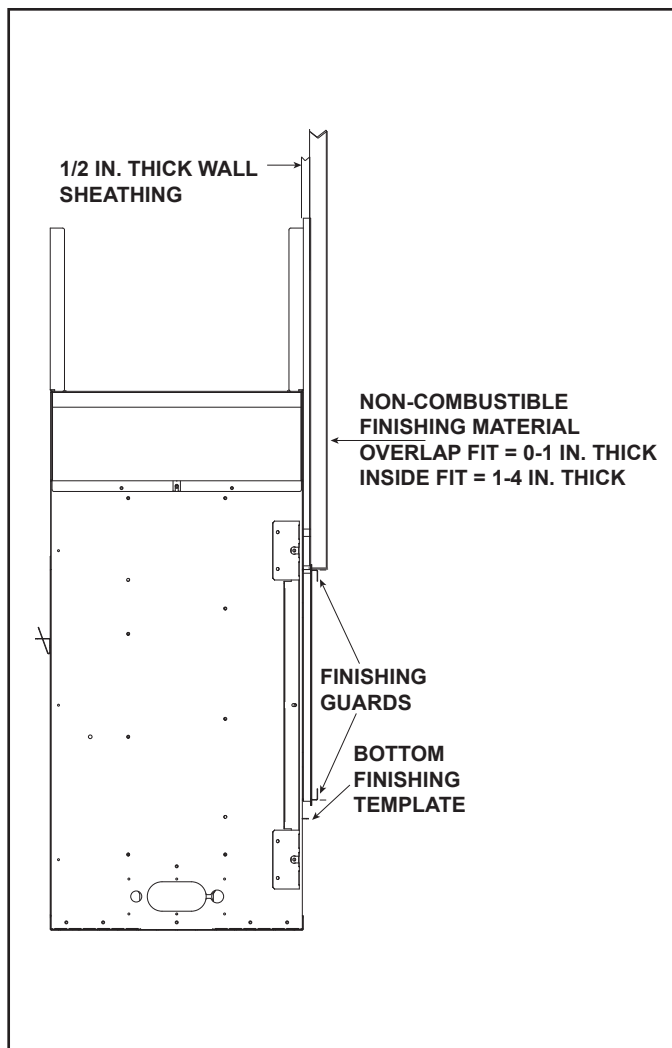
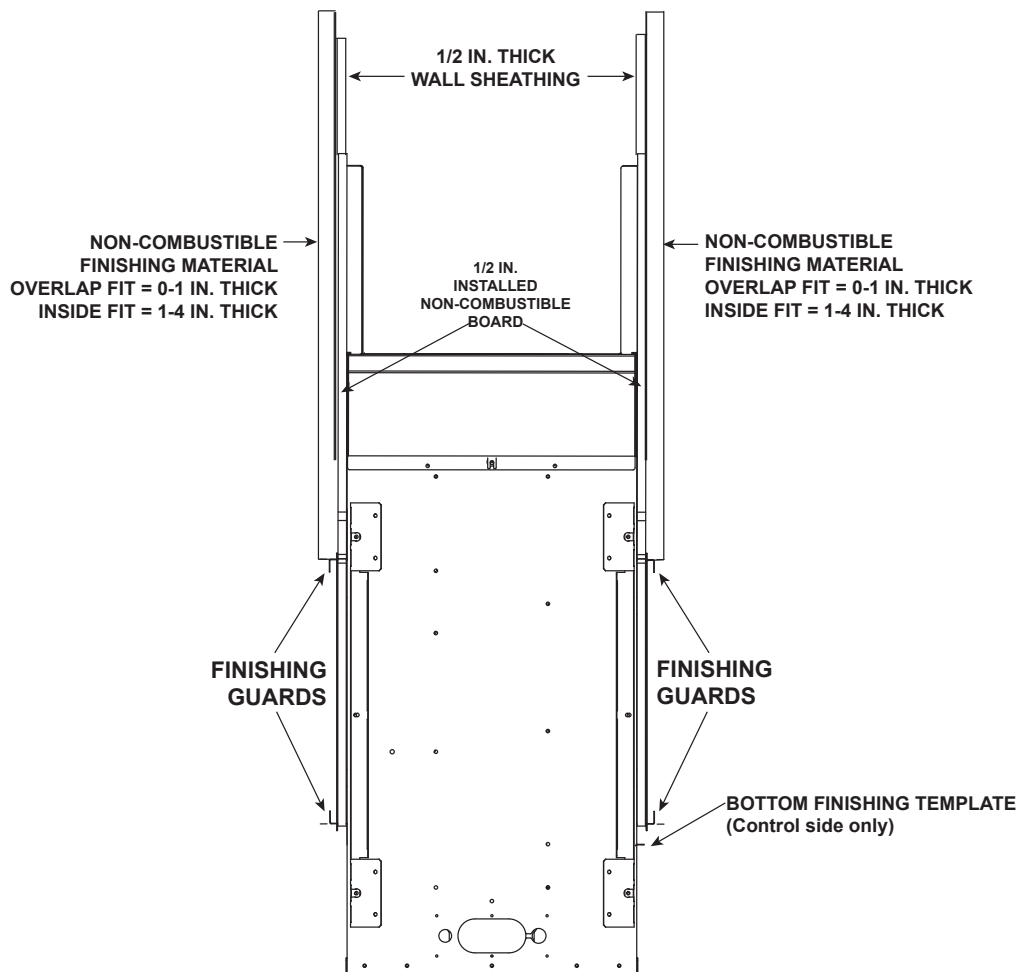

Figure 10.2 Finishing and Facing Materials - Single-Sided Models
Figure 10.3 Finishing Materials - See-Through Models
Decorative facing material thickness is measured from the face of the installed non-combustible board. See Figure 10.2 and Figure 10.3.
The fronts for this appliance are compatible with non-combustible materials. See Figure 10.2 and Figure 10.3.
Installation of finishing materials can be accomplished by either the “overlap” or “inside-fit” method, depending on what type of decorative barrier front is to be installed. See Figure 10.2 and 10.3. Overlap fit decorative barrier fronts include the Quattro and Loft Forge. The Clean Face Trim Front (CFT) can be either an inside fit or an overlap fit. See Table 1.
1. Remove bottom finishing template from bottom access panel. Verify that factory-installed finishing guards are installed to ensure finishing material does not extend into the fireplace opening. See Figure 10.2 and 10.3.
- 1. Remove bottom finishing template from bottom access panel. Verify that factory-installed finishing guards are installed to ensure finishing material does not extend into the fireplace opening. See Figures 10.2 and 10.3.